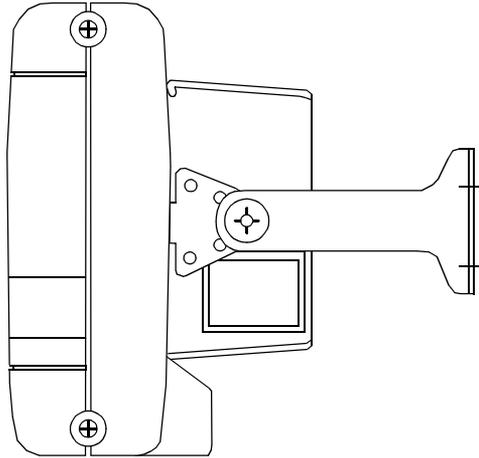

Figure 2. Wall Mounting the Wallboard Using Brackets
Follow these steps to mount a wallboard on a wall using brackets. (See Figure 2.)
3. The hanging brackets are already installed in the channel on the back of the wallboard. See Figure 2. Using the Allen wrench, loosen the #8 screws that secure these brackets to the wallboard. Then position the brackets so that they line up with the pivot mounting brackets you have already installed on the mounting surface. When the hanging brackets are correctly lined up, secure them again by tightening the #8 screws until the hanging bracket is snug against the wallboard.